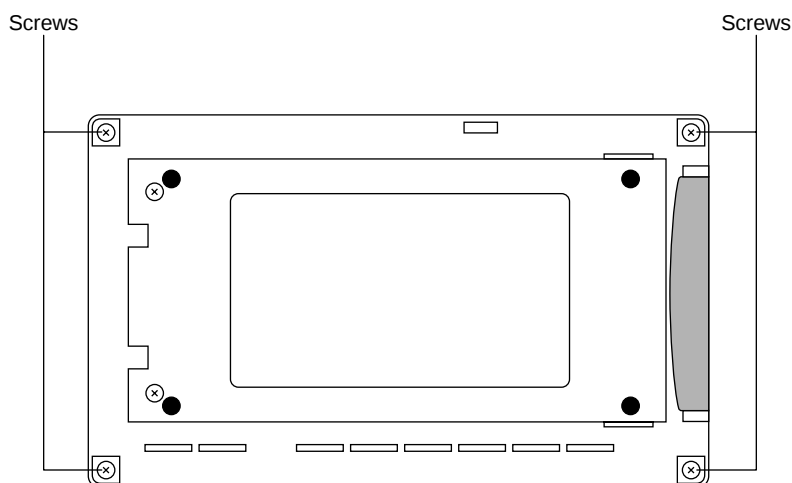

Figure 6-2: N-3100 Corner Screws
4. Remove the four corner screws that hold the unit together (Figure 6-2).
When replacing the UIF PCB, ensure that the Instrument Identification on the bottom of the unit (see Figure 6-2) is replaced with the one provided with the replacement PCB. To remove the UIF board: